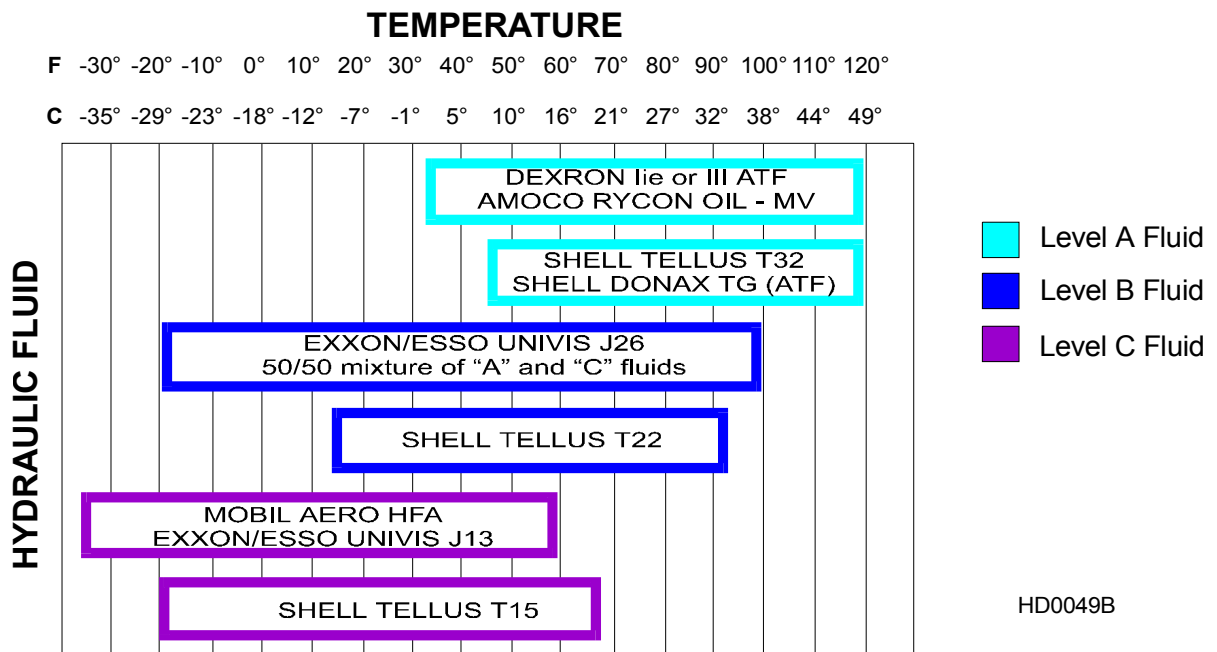

FIG. 3-7
**See Figure 3-7.** If you are operating in temperatures -20° to 100° F (-29° to 38° C), use an all-weather hydraulic fluid such as Exxon Unavis J26. For alternate fluids and/or other temperature ranges, refer to the chart below. Operating above the recommended temperature range of a fluid could result in excessive pump wear. Operating below the recommended temperature range could result in reduced hydraulic cylinder speed. To change fluid types, replace one gallon of the current fluid with four liters of the alternate fluid.